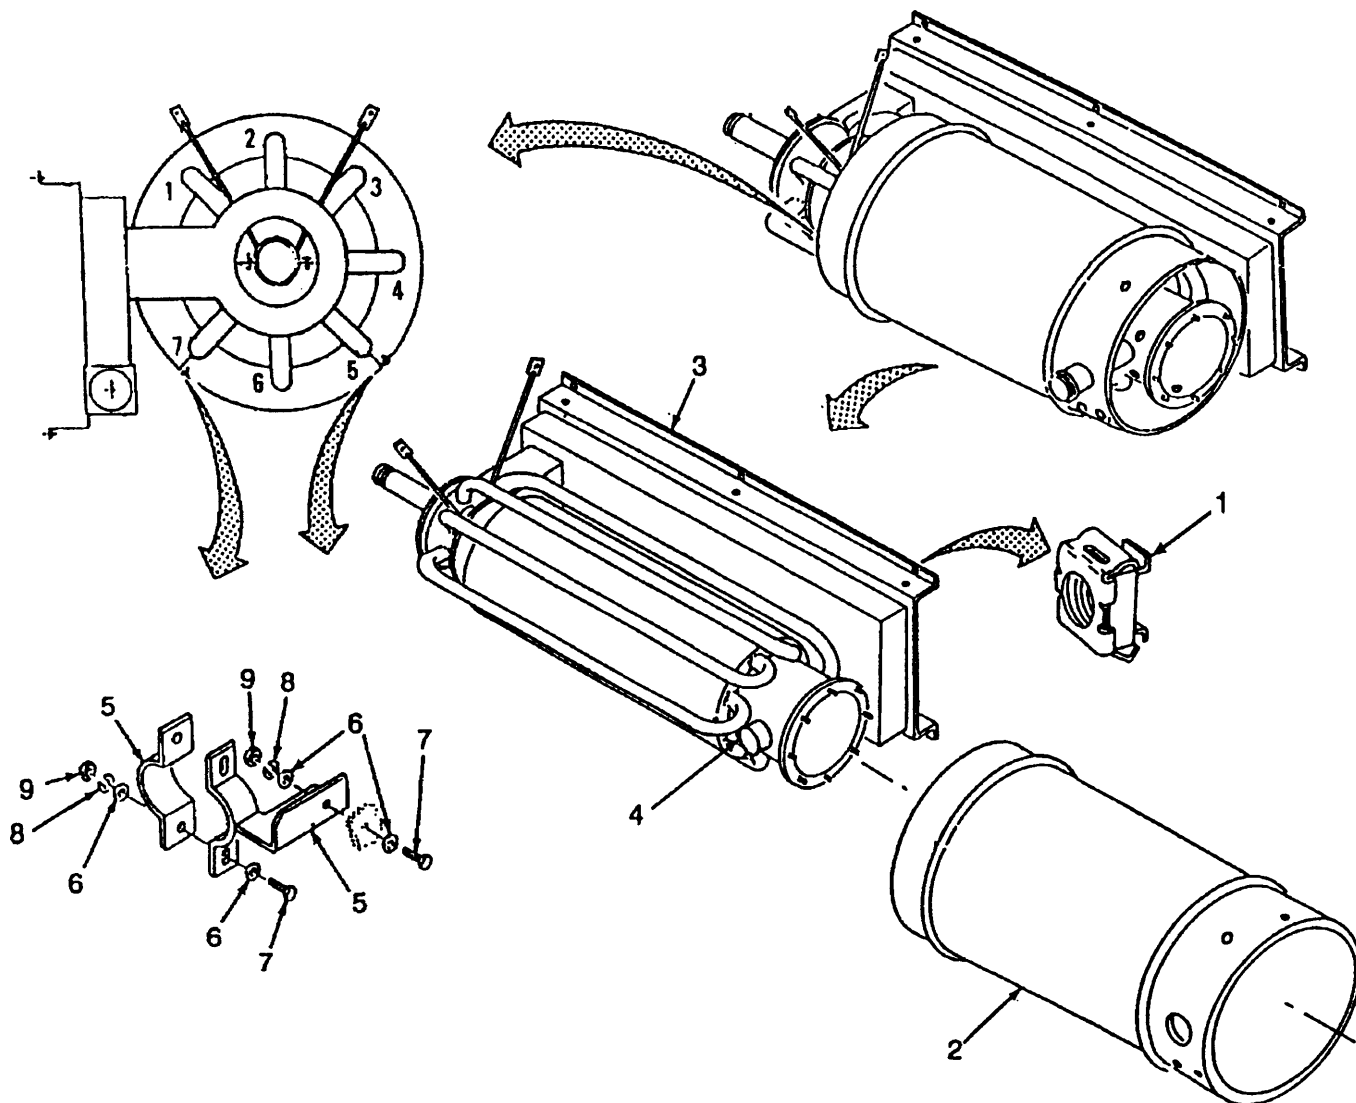

Figure 5-16. Heat Exchanger, (Model H120) Assembly
e. Assembly - continued (Refer to Figure 5-16)
- (2) Install any captive nuts (1) removed during disassembly.
- (3) Slide heat exchanger shell (2) onto heat exchanger (3) with air inlet pipe (4) aligned with large opening in side of shell.
- (4) Install two clamps (5) on heat exchanger (3), one on tube 5 and one on tube 7. Secure with eight flat washers (6), four screws (7), four lockwashers (8) and four nuts (9). Tighten hardware hand tight only, hardware will be tightened during installation of assembly.